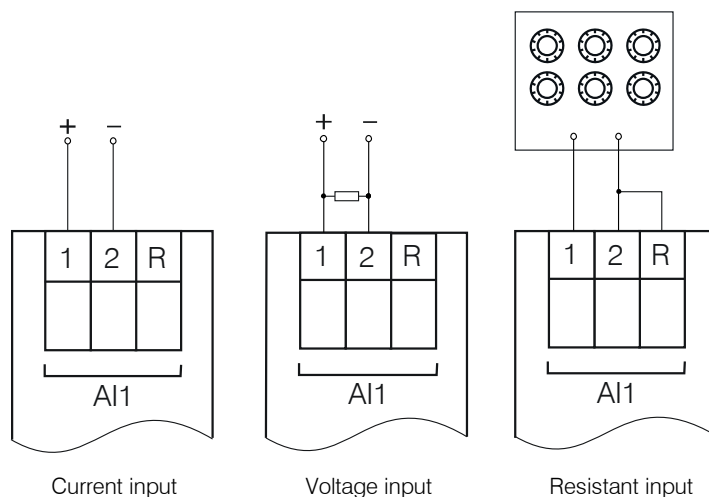

Fig. 6.1 Connection of the reference signal source to an input
1. To calibrate an input, connect the reference signal source to it (Fig. 6.1).